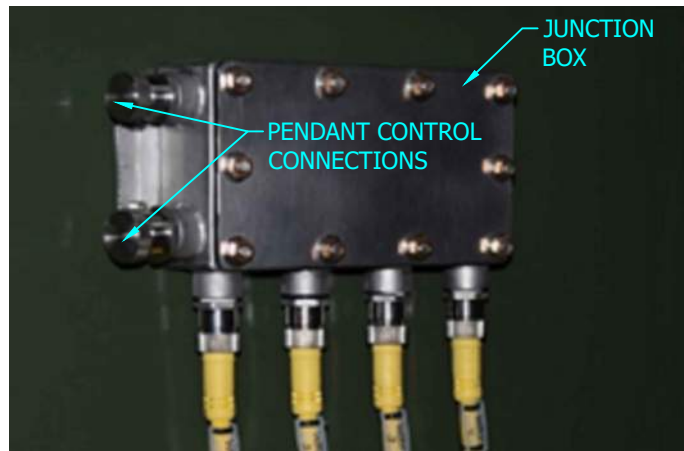

FIGURE 50 Ⓜ
- Ⓜ PENDANT CONTROLLER MUST BE CONNECTED TO THE JUNCTION BOX PICTURED BELOW TO OPERATE MOTOR OPERATORS. JUNCTION BOX CONNECTIONS ARE SEVEN-PIN AND 12-PIN, SO THEY CANNOT BE INSTALLED INCORRECTLY. SEE FIGURE 50.